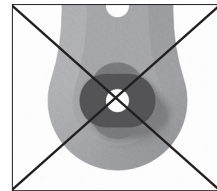

fig. 17
- **incorrect** position of the bearing nut (fig. 17).